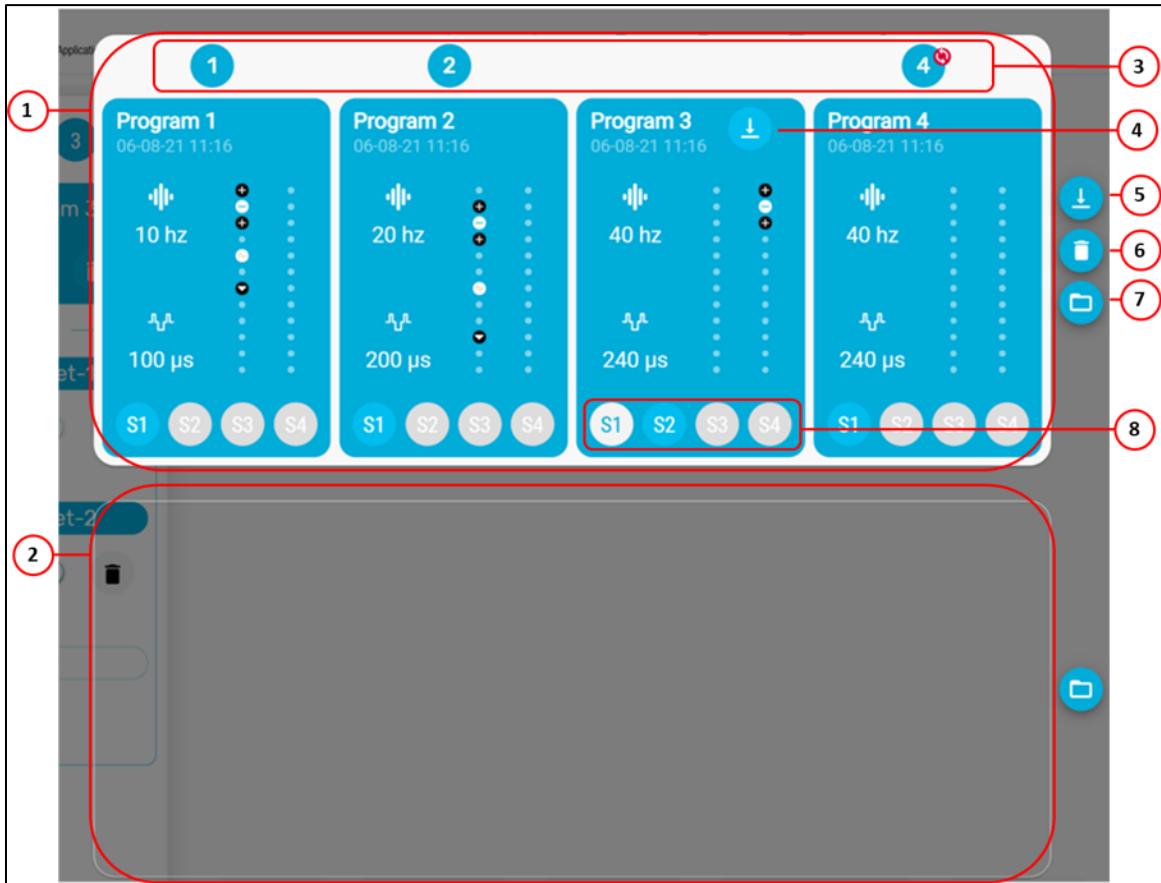

Figure 6.25: Layout of the SaveSlot window.
When viewing the SaveSlots, numbers above each program (Indicators of Synchronization) indicate programs on the CPA that match what’s saved in the SaveSlot. If the program on the CPA does not match exactly the program that’s on the stimulator, then a sync icon will also appear (for example, see Program 4 in Figure 6.25).
1. Touch the Program label to access the SaveSlots menu (Figure 6.25).